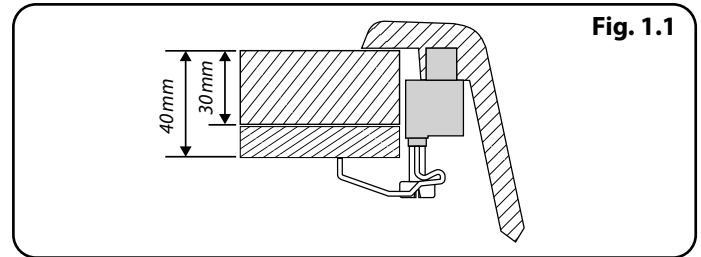
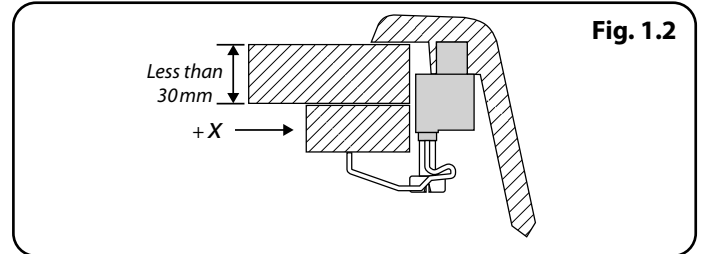

Fig. 1.1
Fig. 1.2
- ⚠ **The clamping brackets are suitable for worktops of between 30–40 mm thickness (Fig. 1.1). If your worktop is a different size then it may require packing under the clamps or rebating (Fig. 1.2).**